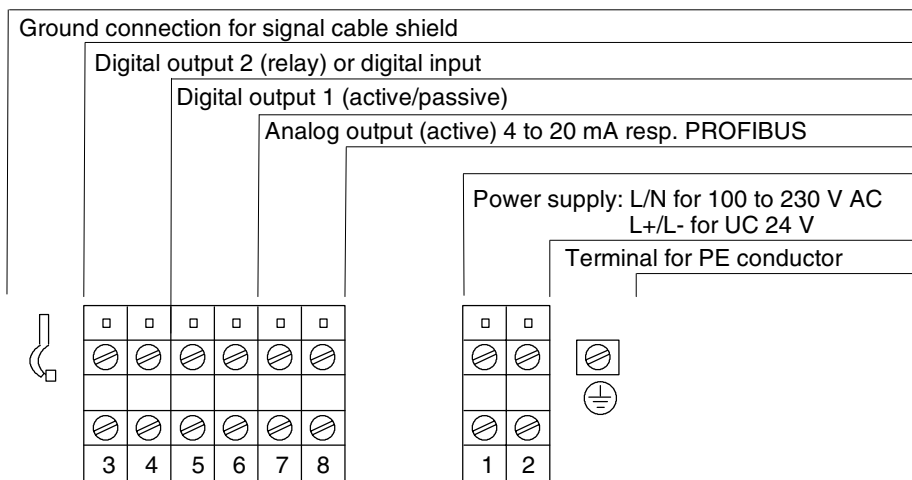
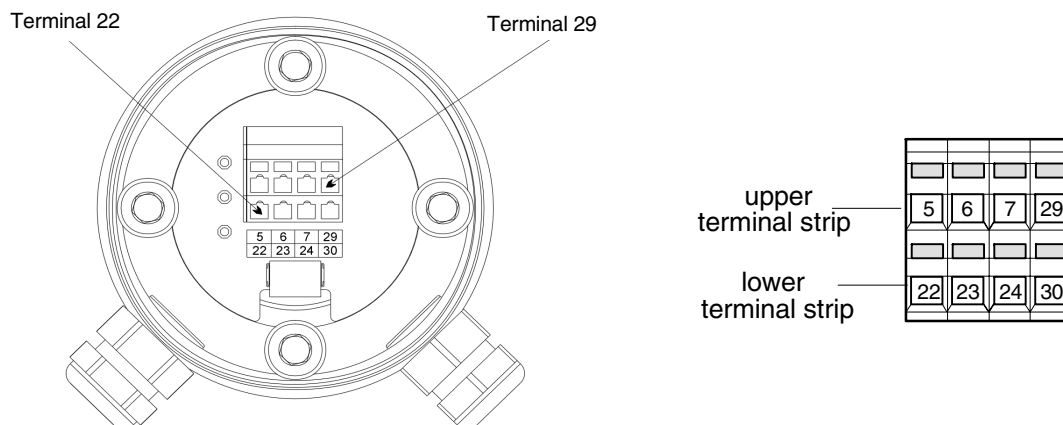
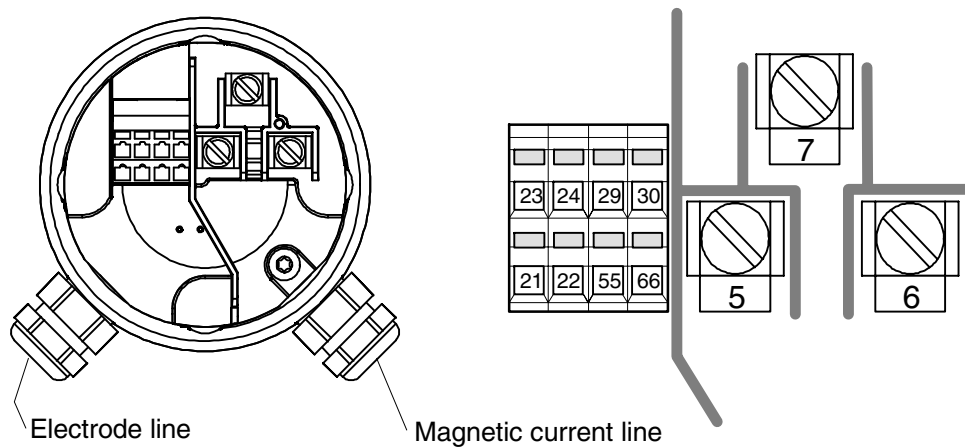
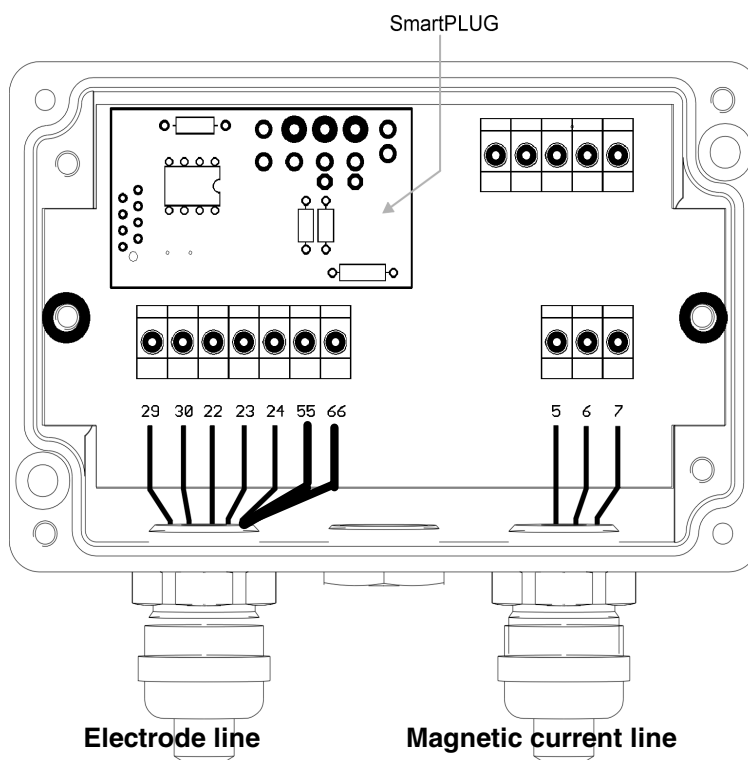

Figure 3-11 Connection diagram for power supply and signal cables
Figure 3-12 Connection diagram for sensor cable (variant 1, InterMag 2 only)
Figure 3-13 Connection diagram for sensor cable (variant 2)
Figure 3-17 Electrical connections of the 711/A, 711/E and 911/E sensors (variant 1)
- Connect the lines according to Figure 3-11 through Figure 3-13. Fit end ferrules to fine-wire lines.
There are two types of terminal arrangements: An earlier version 1 (see Figure 3-12) and a newer version 2 (see Figure 3-13).
The 711/A and 911/E remote version measurement sensors have a terminal box as shown in Figure 3-17 (variant 1) or Figure 3-13 (variant 2). The 711/E measurement sensors have a terminal box as shown in Figure 3-17.
Feed the electrode line through the left gland and the magnetic current line through the right gland and connect the cables as drawn in Figure 3-17 (variant 1) or Figure 3-13 (variant 2).